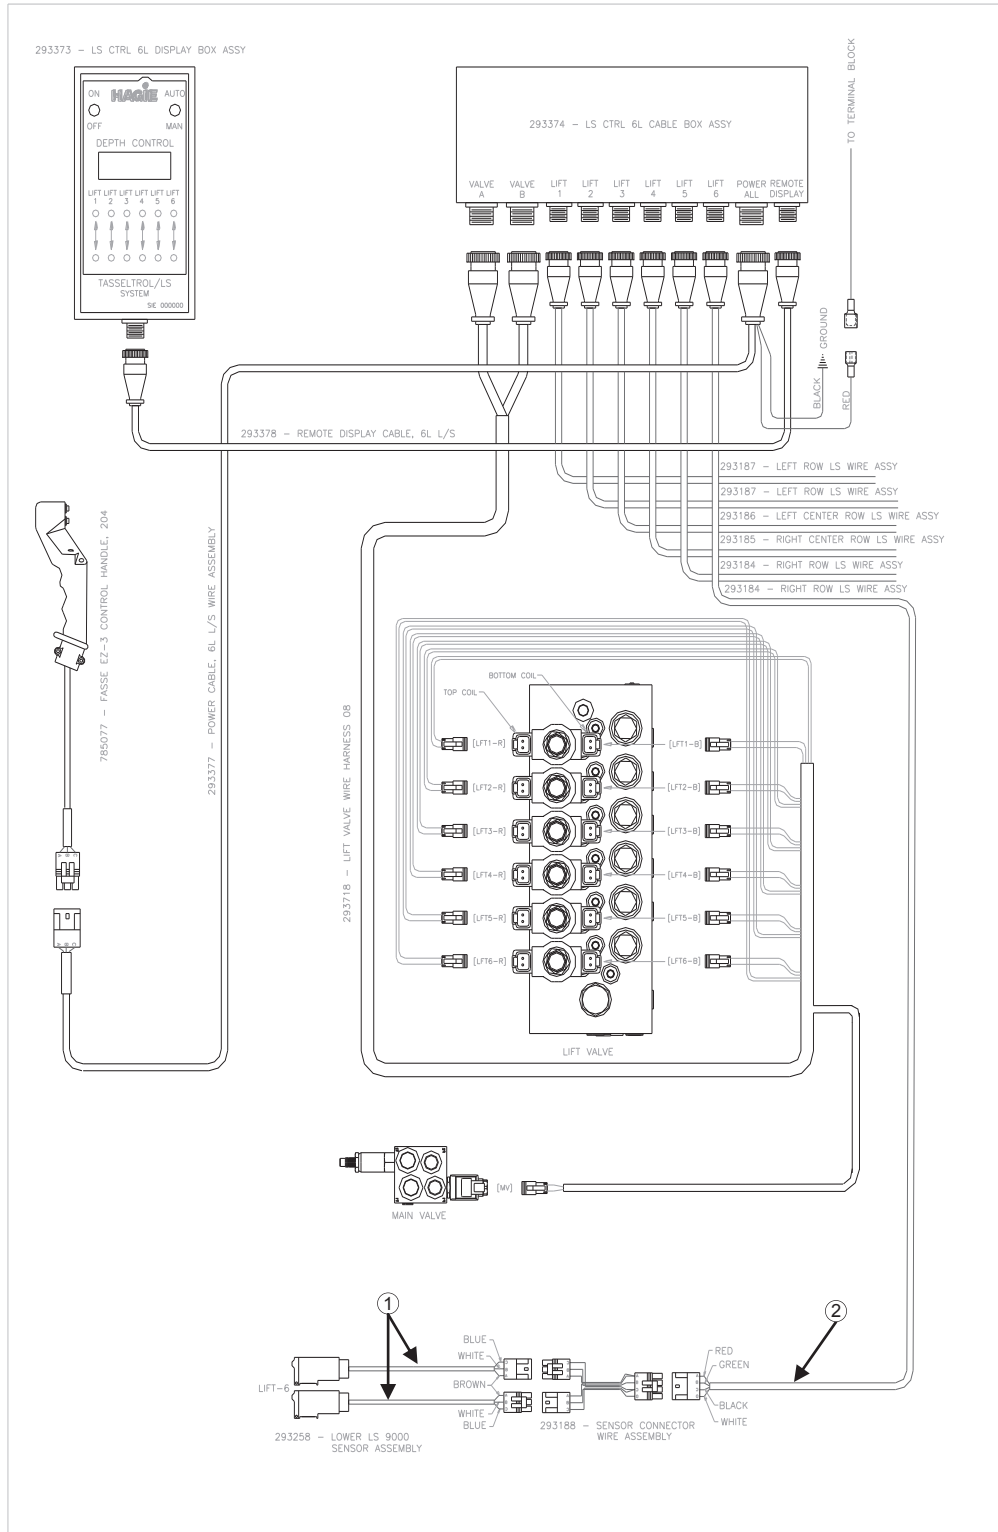

FIG 9.1
No lights at either photo sensor	Faulty connector cable (See page 124, fig. 9.1, item 2) Faulty RED and/or BLACK wire in connector cable (See page 124, fig. 9.1, item 1)
Lights at lower photo sensor	<p>Faulty GREEN wire in connector cable (See page 124, fig. 9.1, item 2)</p> <p>Photo sensor not in line with reflector, call Hagie Manufacturing Customer Service.</p> <p>Faulty BLUE wire in sensor assembly (See page 124, fig. 9.1, item 1)</p>
No lights at lower photo sensor	<p>Faulty RED and/or BLACK wire in connector cable (See page 124, fig. 9.1, item 2)</p>
Lights at upper photo sensor	Faulty WHITE wire in sensor assembly (See page 124, fig. 9.1, item 1) Faulty BLUE wire in sensor assembly (See page 124, fig. 9.1, item 1)
No lights at upper photo sensor	Faulty RED and/or BLACK wire in connector cable (See page 124, fig. 9.1, item 2)